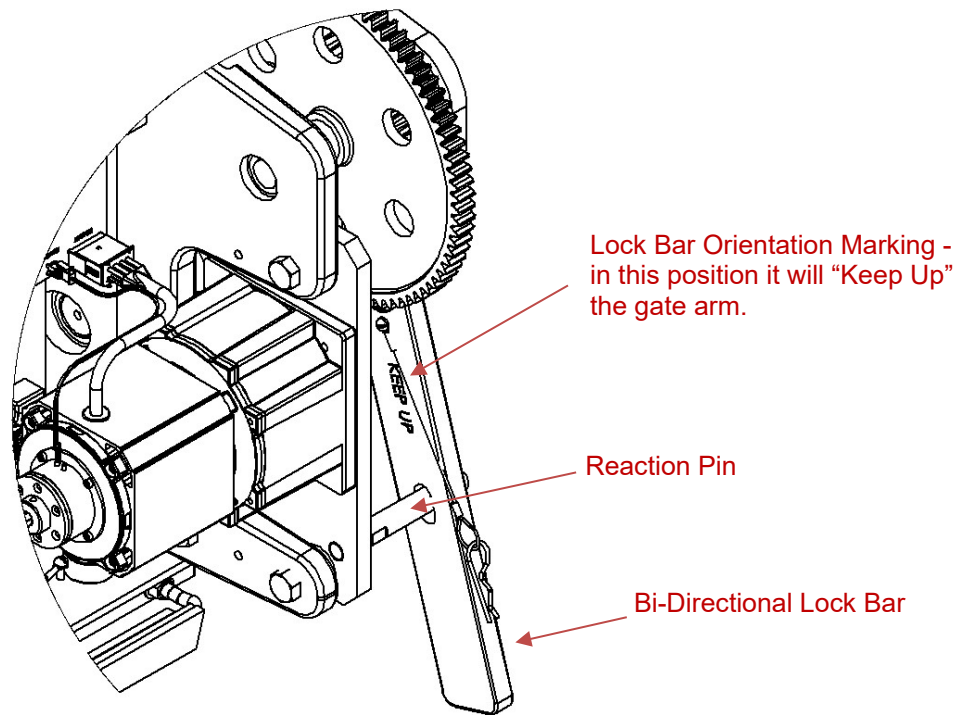

Figure 2-5 Bi-Directional Lock Bar – Left Side View
REFER TO FIGURE 2-5 TO DETERMINE THE PROPER ORIENTATION OF THE LOCK BAR TO HOLD THE GATE IN THE DESIRED POSITION.
The Operating Mode switch is located in the upper center of the control board and is used to drive the gate mechanism from the vertical to the horizontal position so that a damaged gate arm can be repaired. By switching the Operating Mode switch from the lower Normal position to the upper Maintenance position, the Motor Down pushbutton can now be activated to power down the mechanism. The S-80 is designed to drive a mechanism with six (6) 58 pound counterweights, fully extended, to the horizontal position. The Bi-Directional Lock Bar must be installed to hold the mechanism in the horizontal position once it has been powered down using the Motor Down pushbutton. See Figure 2-5.